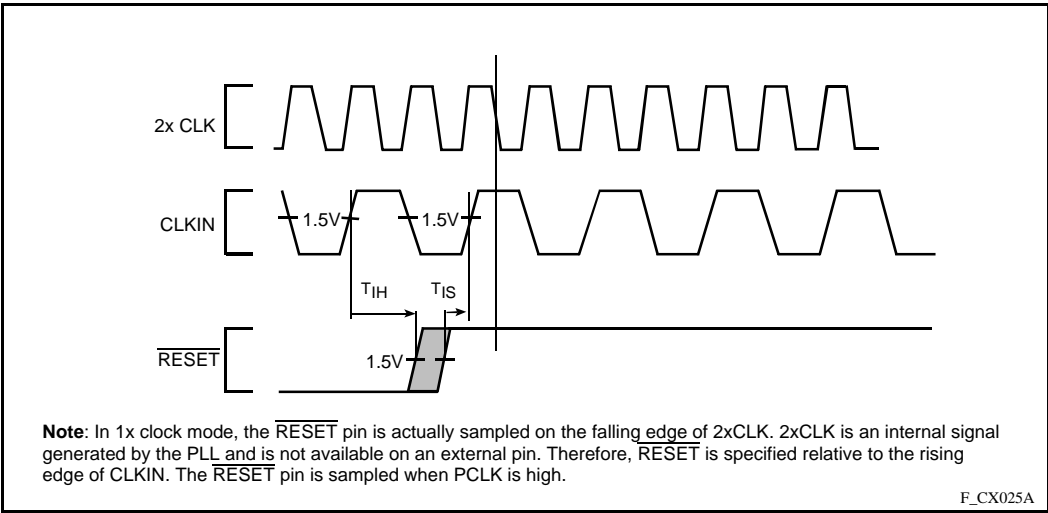

Figure 23. Clock Synchronization in the 1-x Clock Mode
- In 1-x clock mode, $\overline{\text{RESET}}$ is an asynchronous input which has no required setup and hold time for proper operation. However, to guarantee the device exits reset synchronized to a particular clock edge, the $\overline{\text{RESET}}$ pin must meet setup and hold times to the rising edge of the CLKIN. (See Figure 23.)